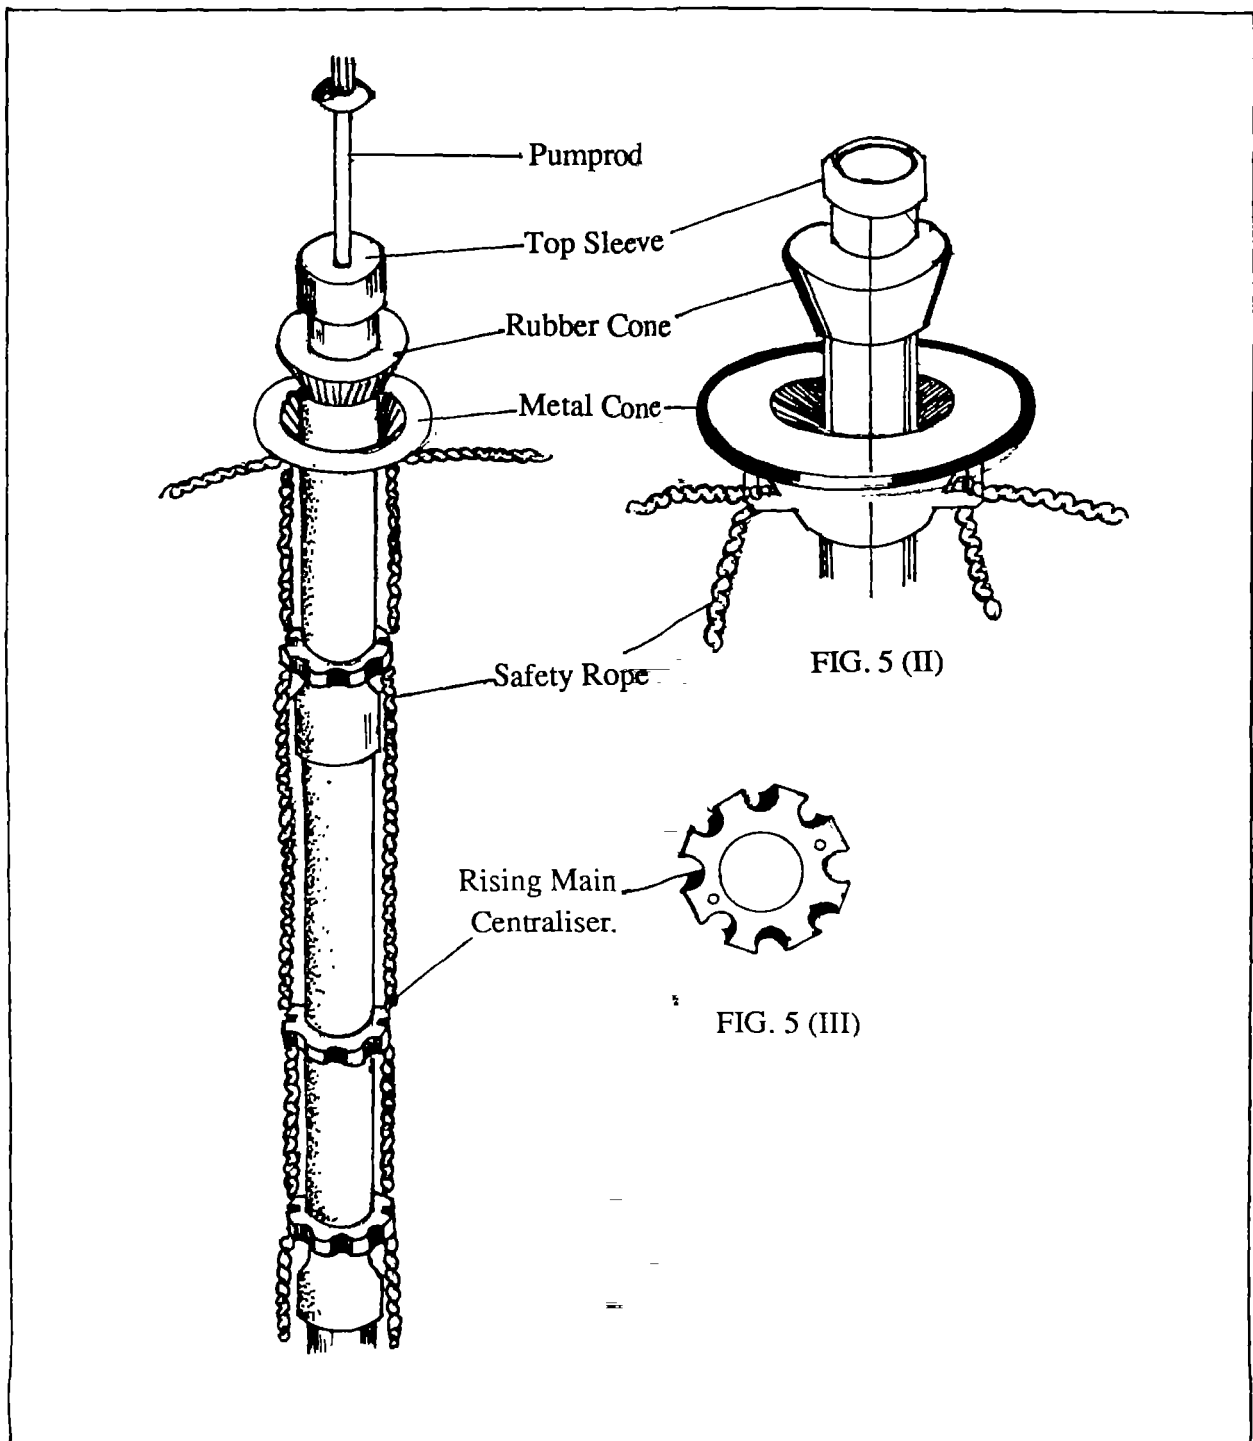

FIG 5 (i) (ii) and (iii) THE RISING MAIN, PUMPRODS, AND CENTRALISERS
i. Rising Mains: (fig 5. (ii)).
It is a round piece of PVC fitted at the top of the top most PVC rising main (Using solvent cement). It rests onto the conical rubber and restrains the rising main, from downward slipping. (See fig 5. (ii)).
Both help to anchor or hold the rising mains between the pumphead and the pedestal plates. (See fig 5 (ii))
v. Rising Main Centralizers (Stabilizers) (See fig 5. (iii))